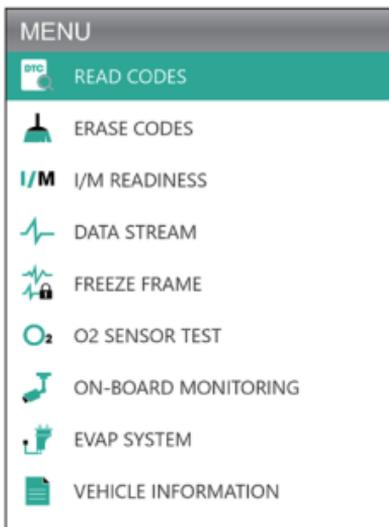

Figure 3.2.2
2. To retrieve the DTCs, please select Read Codes (See Figure 3.2.2), and press [OK]. The scan tool will communicate with ECU and present you with DTCs.